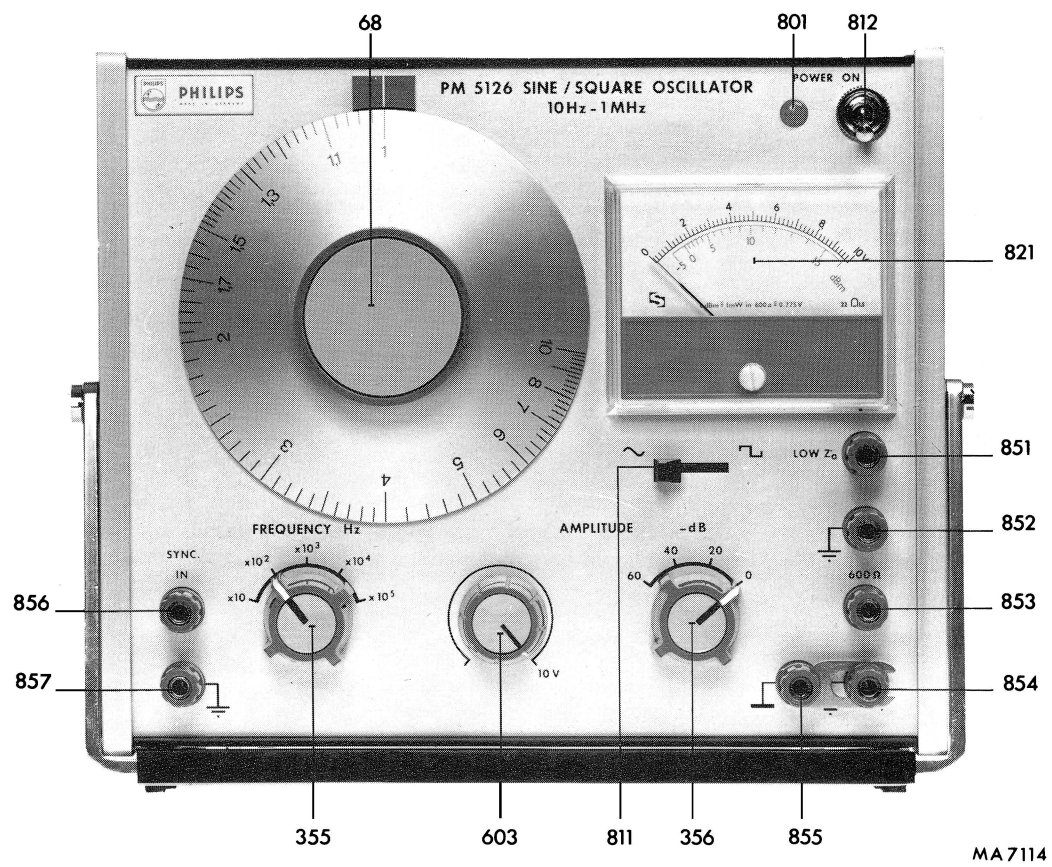

Fig. 5. Front view, controls and sockets
2.1.4. Controls and sockets (Figs. 5 and 6)